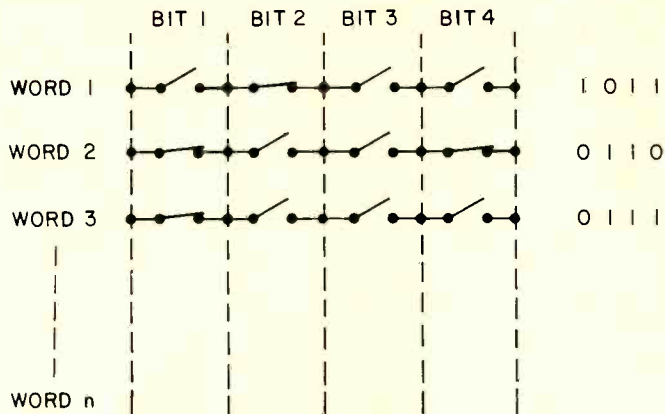

Fig. 4 — A relay-based memory.
The dichotomous nature of the storage is easily implementable via elementary physical processes. For example, a magnetized pellet (or bubble or core) (1) vs. a non-magnetized pellet (0); this is the principle of core memory. A charge on a device (1) versus no charge (0) is the principle of charge-coupled devices; a saturated magnetic strip on a tape (1) versus a zero magnetization field (0) is the principle of magnetic tape; a hole on a paper tape (1) vs. no hole (0) — first computer — see Fig. 4. All these storage techniques are robust in the sense that it is very improbable that the data become corrupted. It is very improbable that a hole would be punched in the right spot on a piece of paper; it is very improbable that a saturation on the tape would develop, even if a mild (stray) magnetic field nearby influences the tape.